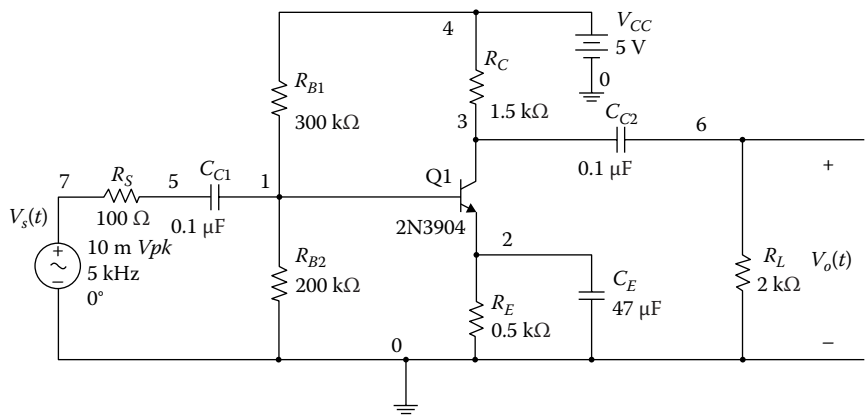

FIGURE P7.8
- Problem 7.8** Use the Analog Discovery board to determine (1) the magnitude response of the circuit shown in Figure P7.8, (2) midband gain, (3) low cut-off frequency, (4) high cut-off frequency, and (5) bandwidth of the amplifier.